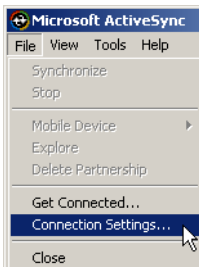

Figure A-4. Open Connection Settings
2. Click **File ► Connection Settings** (Figure A-4).